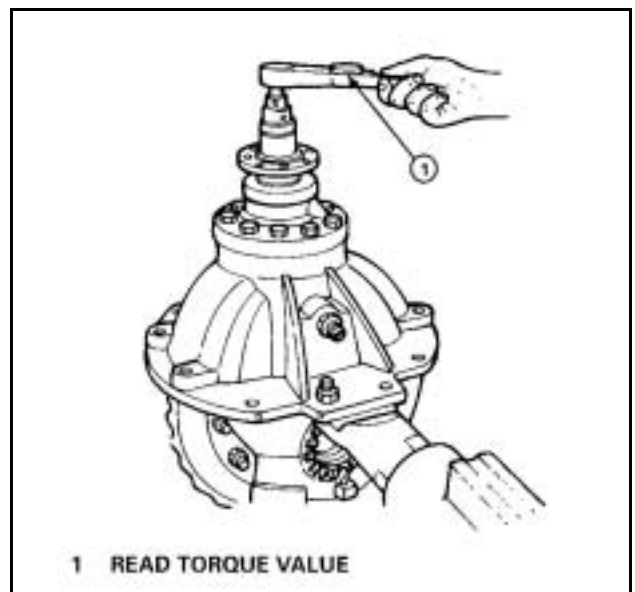

Figure 68
- Attach a torque wrench on the drive pinion nut. Rotate the drive pinion and read the value indicated on torque wrench. **Figure 68.**